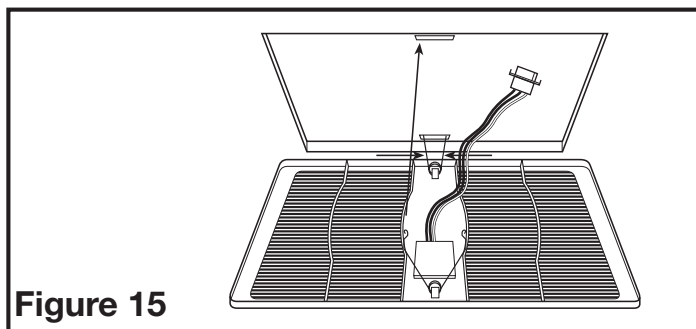

Figure 15
- 4b. **MOTION SENSING MODELS:** Install the grill by squeezing the spring furthest from the motion sensor together and installing it up into the slot furthest from the wire compartment on the fan's housing. Attach the 3 pin quick connect from the motion sensor on the grill to the harness installed in **Step 2a**. This cord will only fit one way into the receptacle. Install the other spring in place and push the grill up into position (**Figure 15**).